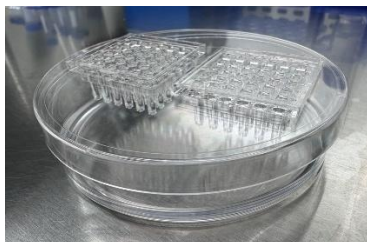

Figure 1. Hydration of the pillar plate surface in a 100 x 20 mm petri dish with 5 mL of sterile, distilled water to minimize air bubble entrapment.
- Hydrate the surface of the pillar plate by inserting two 36PillarPlates into a 36PetriLid placed on a 100 x 20 mm petri dish containing 5 mL of sterile distilled water. Incubate the assembly in a humidified 5% CO₂ incubator at 37°C for 30 minutes prior to cell loading (**Fig. 1**).
- For minimizing water evaporation during Matrigel gelation, insert two 36PillarPlates loaded with cells in Matrigel into a 36PetriLid placed on a 100 x 20 mm petri dish containing 5 mL of sterile, distilled water (**Fig. 1**).